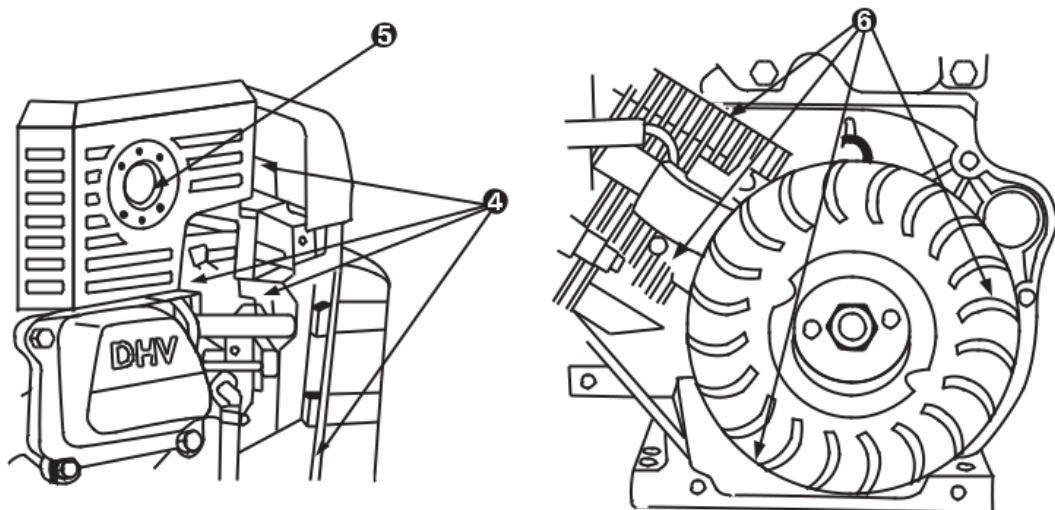

Figure 15
- \* Every 100 hours or every season, remove the starter guard and clean the area shown in Figure 15.